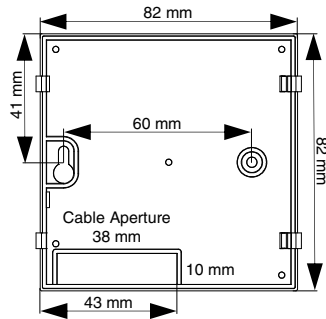

Fig. 4.
3. The thermostat has been designed for fixed wiring only. Cable access is through the rear of the mounting backplate as shown in Fig. 4
The backplate can be secured either to a flat vertical mounting surface or to a single gang flush mounted wiring box: the fixing centres are shown in Fig. 4